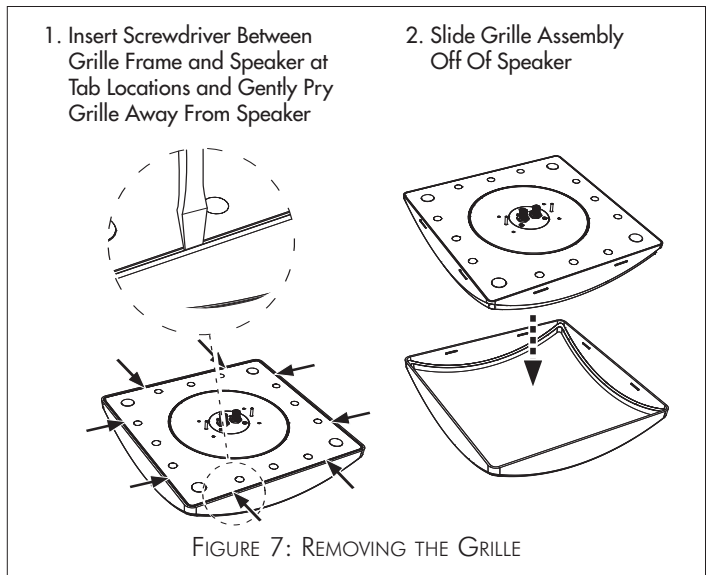

FIGURE 7: REMOVING THE GRILLE
- The grilles are held on the speakers by 2 small tabs on each side of the grille frame. Use a flat-blade screwdriver to gently pry each side of the grille frame away from the speaker to release the tabs, and slide the grille off the speaker (see Figure 7).